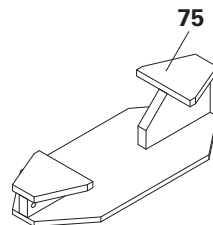

Fig. A9.04
The Foundation Strap (75) is used for forming individual foundations using the “windmill configuration”. (Fig. A9.04)